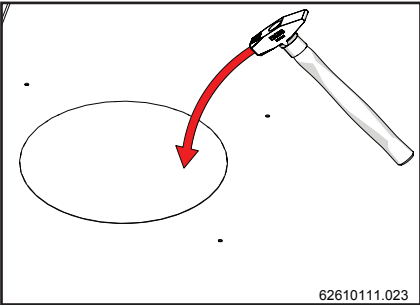
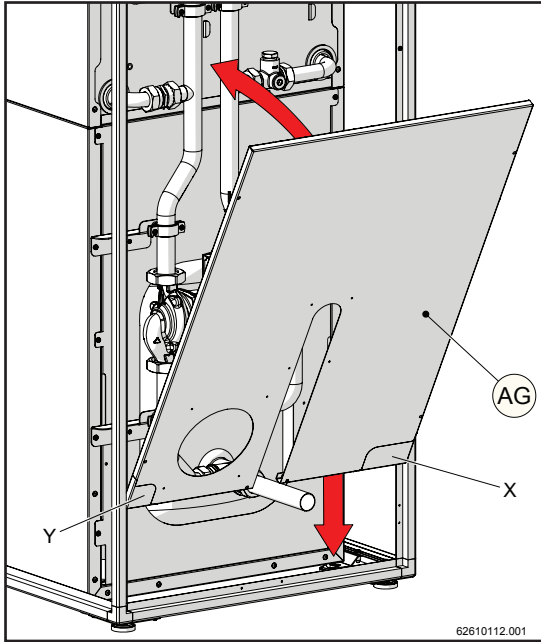
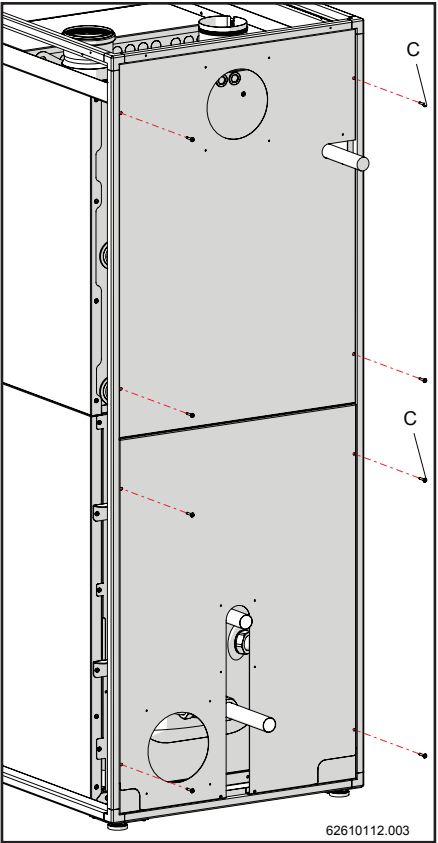
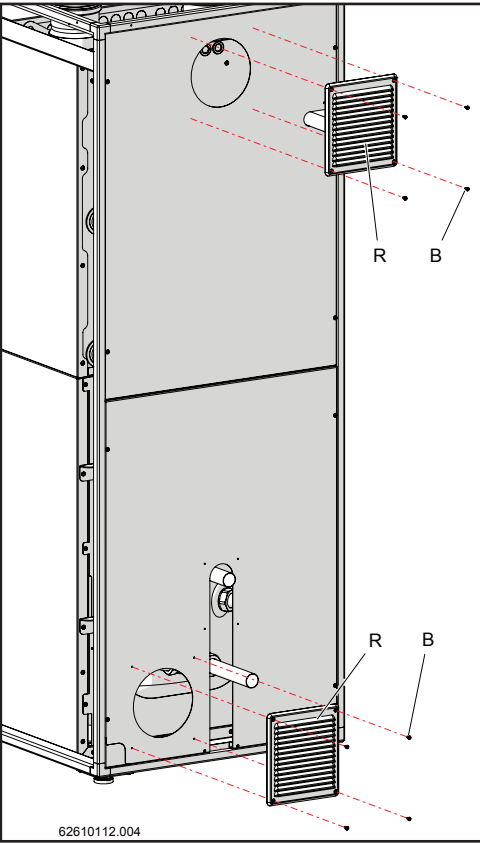

Figure 12-16
Figure 12-18
Figure 12-20
Figure 12-21
- 8.- Remove the pre-cut discs (AG) and (AH), as shown in figures 12-16 and 12-17, and according to the type of electrical and condensate disposal system present at the appliance's installation site, the pre-cut discs "X" and "Y" can be removed from the covering (AG) in figure 12-18.
- 9.- Insert coverings (AG) and (AH) in the way shown in figures 12-18 and 12-19 and secure them to the structure with screws "C" (figure 12-20). Then fit the rain protection grille "R" with screws "B", as shown in figure 12-21.